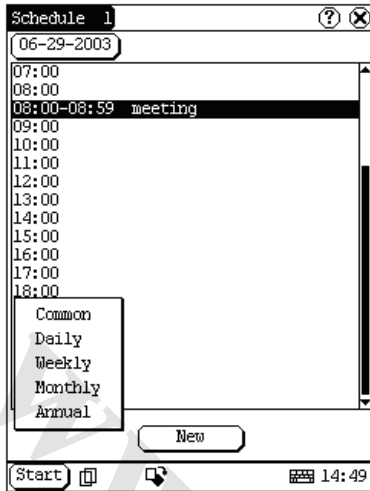

Figure 4-33
- 1) In the Schedule interface, click [New] button so that the Cycle list pops up. See Figure 4-33.